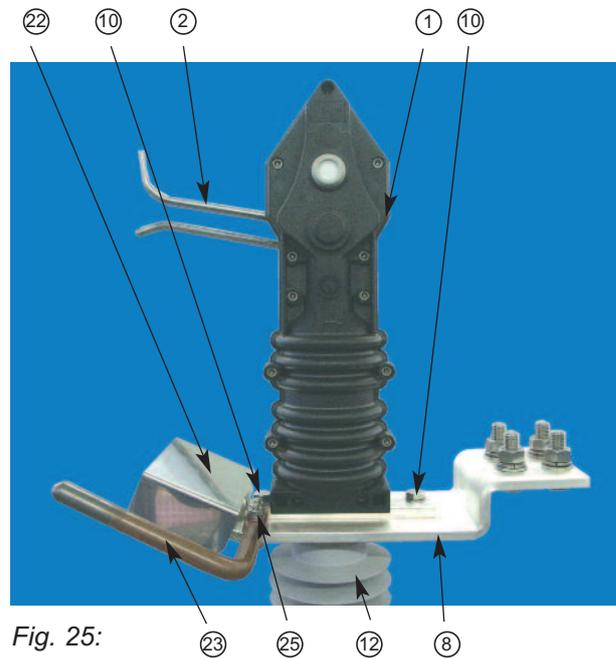

Fig. 25:
- Release fastening bolts M 10x35 (10), remove arcing chamber and remove cover plate (22) of main contacts (Fig. 25)
- Release contact plate (8) with contact finger (7) including pre-arcing horn (23) from fixed insulator (12) (Fig. 25/26) using the two fastening bolts M 10x25 (11).
- Install new contact plate (8) with contact fingers (7) including pre-arcing horn (23) on the fixed insulator using the two fastening bolts M 10x25 (11) and tighten slightly.
- Ensure linear alignment of the new contact plate (8) toward the moving connecting plate (5) using a straight edge.
- Tighten fastening bolts M 10x25 (11) of contact plate (8) (Tightening torque: 32 Nm)
- Install new arcing chamber (1) in switched-on condition on the contact plate (8) with contact finger (7) and cover plate (23) using the two fastening bolts M 10x35 (10) incl. washers and lock washer and tighten (Fig. 25/26) (tightening torque: 32 Nm)